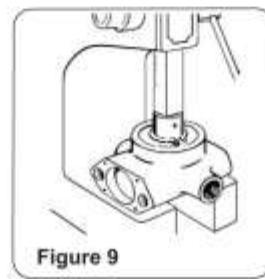

Figure 9
7. Place the pump body onto an arbor press with the shaft end of the pump up. Press the crankshaft and bearing out of the pump body (See Fig. 9). The main bearing will come out with the crankshaft.